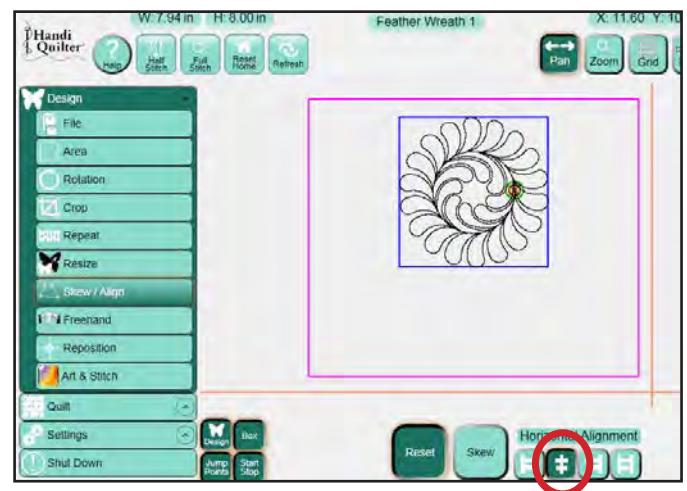

Figure 5.64
**Align Horizontal Center:** (Figure 5.64) The horizontal center of the design's bounding box aligns with the horizontal center of the **Area**.